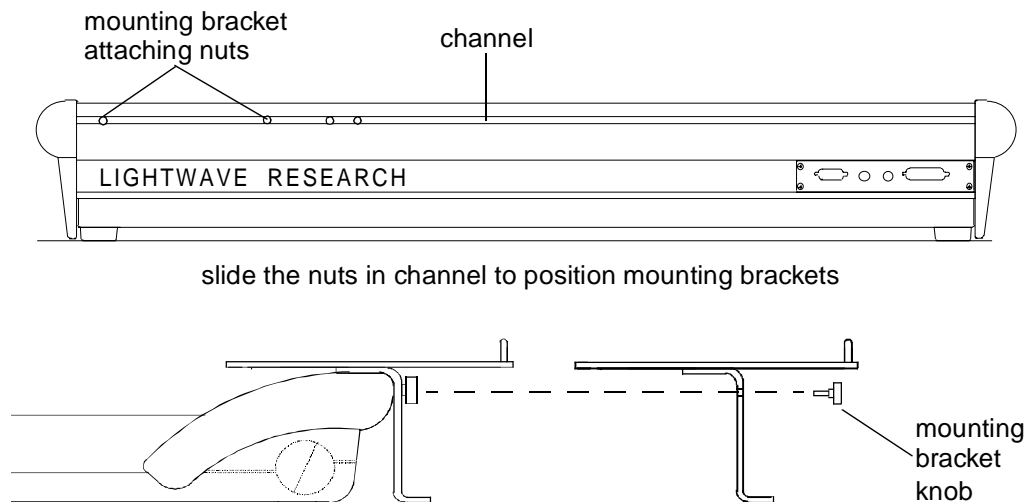

Figure 1.10. Attaching Mounting Brackets to Console
1. Open the Console and remove the four mounting brackets and four mounting bracket knobs from the Console storage tray. Figure 1.10 shows a mounting bracket and a mounting bracket knob.
2. Notice that on the rear of the Console there is a channel containing four nuts as Figure 1.10 shows. Slide two of the nuts to the general area along the channel where you want to position your monitor (left, center, or right).
3. Align the hole in one of the mounting brackets with the nut in the channel and fasten with the mounting bracket knob. Do not tighten down yet. Do the same with the other mounting bracket. Refer to Figure 1.10.